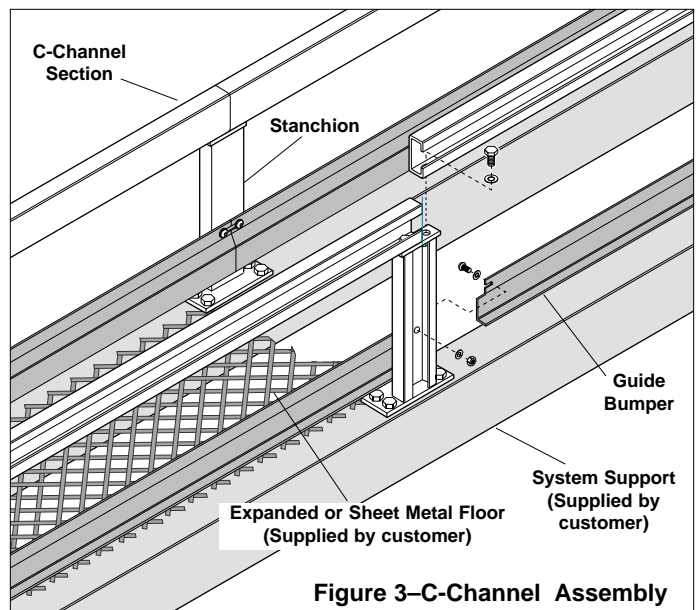

Figure 3—C-Channel Assembly
- 1) Bolt or weld first and last stanchions for one side of system to system support. Install stanchions with open side out (Fig. 3). Run line or laser between them to act as guide when installing remaining stanchions. Tops of stanchions must be precisely aligned, parallel with line and level, with spacing between centerlines of stanchions exactly as shown on print supplied with system.
- 3) Rail sections must be paired throughout system (right side and left side must match). Sections join at support stanchions (Fig. 3). Bolt rail sections to stanchions. Be sure joints between all C-Channel sections are tight and smooth with no gaps or bumps. See allowable tolerances on following page.
- 4) Bolt guide bumper sections to insides of stanchions (Fig.3).